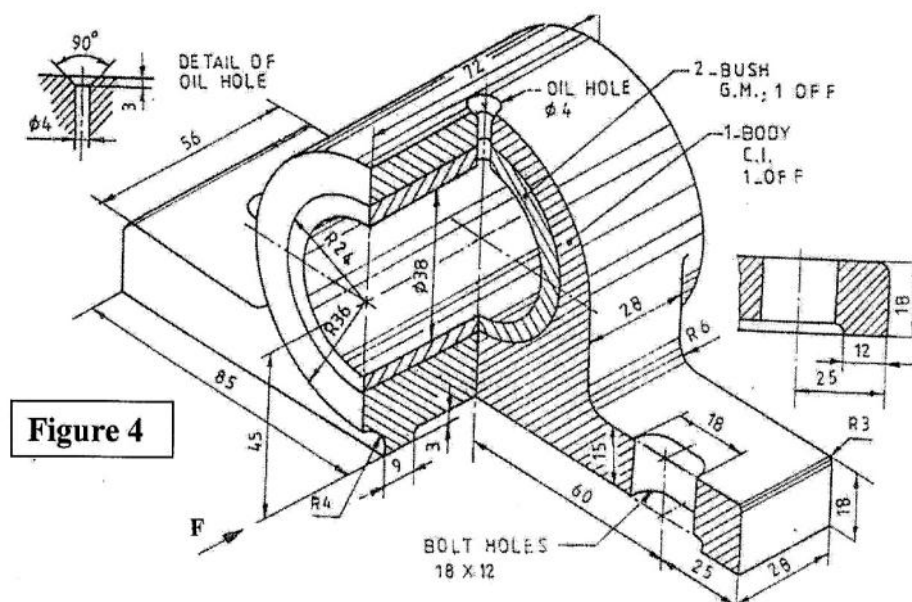

Figure 4
- Q.7.** Figure 4 shows the details of bushed bearing. Draw the full sectional front view of assembly looking in the direction of the arrow marked as "F".